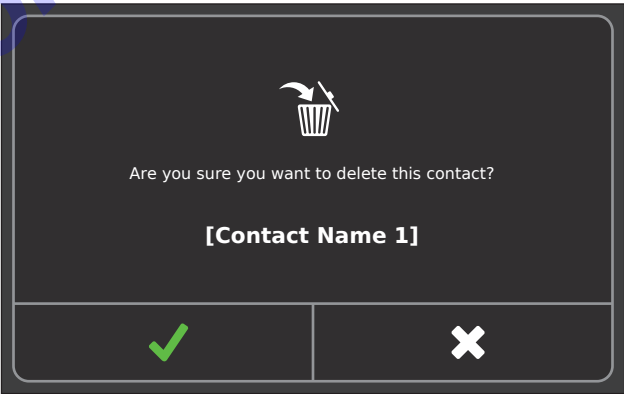

Figure 39 – Confirm CONTACT INFO Deletion
- From the confirmation pop-up, touch the CONFIRM button to delete the information or the CANCEL button to cancel the request (Figure 39).